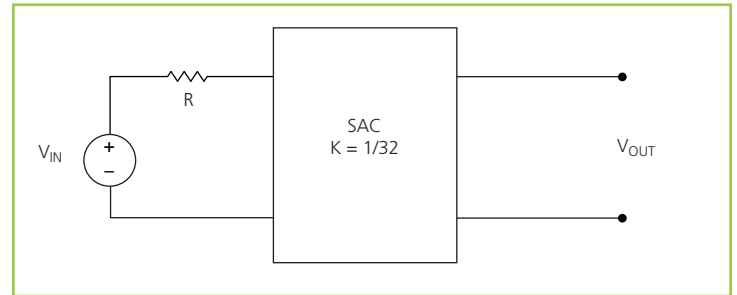

Figure 18 – $K = 1/32$ Sine Amplitude Converter with series input resistor
$I_Q = 0$ A, Eq. (3) now becomes Eq. (2) and is essentially load independent. A resistor R is now placed in series with V_{IN} as shown in Figure 18.
Assuming that $R = 1 \Omega$, the effective R as seen from the secondary side is $0.98 m\Omega$, with $K = 1/32$ as shown in Figure 18.